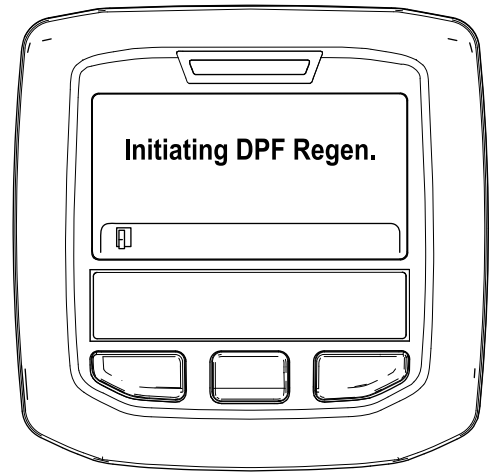

Figure 29
- A. The "Initiating DPF Regen." message displays (Figure 29).